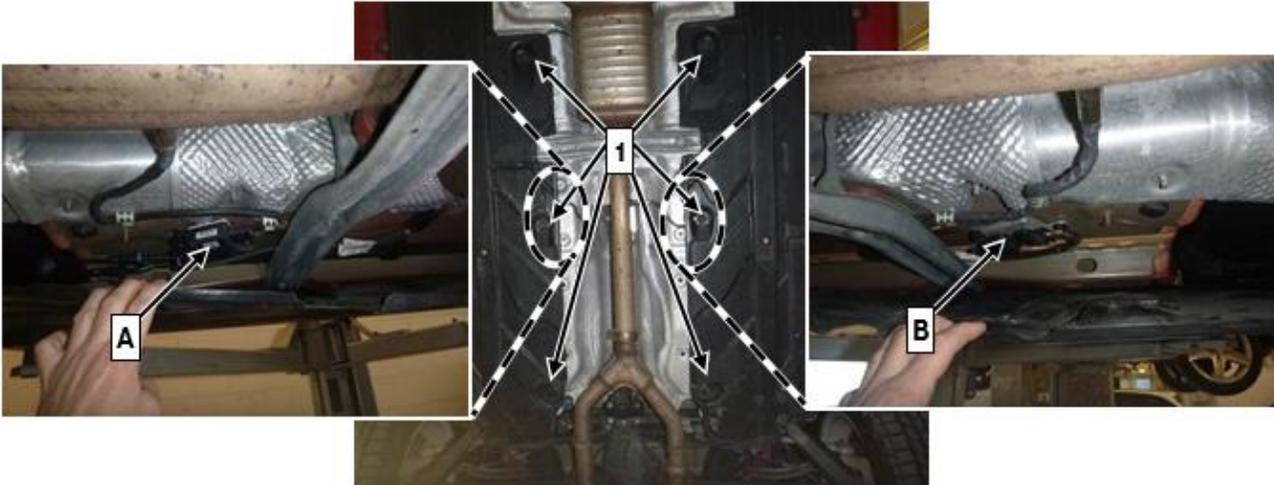

Figure 5
Only loosen the rear underbody panelling (**right and left**) (**Figure 5**).
- i** Loosen inner plastic nuts (**1, Figure 5**) to do this.
7. Release the NOx sensor (**A, Figure 5**) and particulate sensor (**B, Figure 5**) control units downstream of the SCR on the underbody (**AR14.40-P-2038CD**). The NOx sensor and particulate sensor control units will be replaced.
- i** To do so, push the underfloor panelling downward slightly (**Figure 5**).